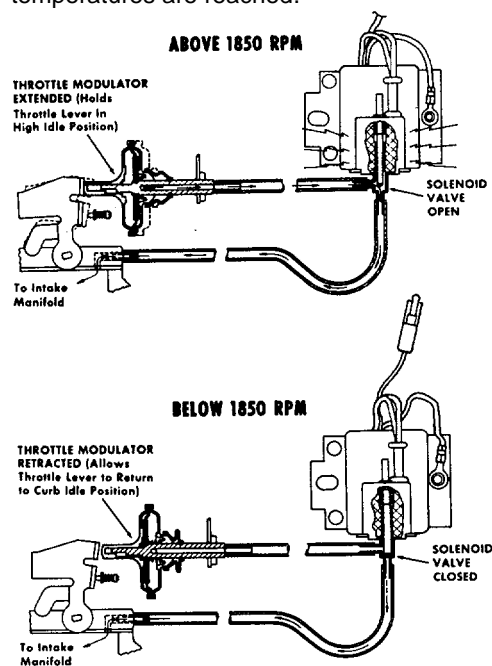

Fig. 60 Throttle Modulator Operation
The engine speed sensor is calibrated to activate or deactivate (extend or retract) the throttle modulator unit at approximately 1850 RPM engine speed. Operation of the throttle modulator is illustrated in Fig. 60.
housing and pulling (without twisting) toward throttle lever. Plastic housing should move freely against internal spring force for about 6 mm ($\frac{1}{4}$ "). Modulator should be replaced if it does not move freely or does not return rapidly to fully retracted position (Fig. 60).
- (1) Verify modulator is retracted at idle.
- (2) Slowly accelerate the engine and observe the speed at which the modulator extends. Modulator should extend at 1850 ± 50 RPM (Fig. 60).
- (3) Slowly decelerate the engine and observe the speed at which the modulator retracts. Modulator should retract at 1850 ± 50 RPM (Fig. 60).